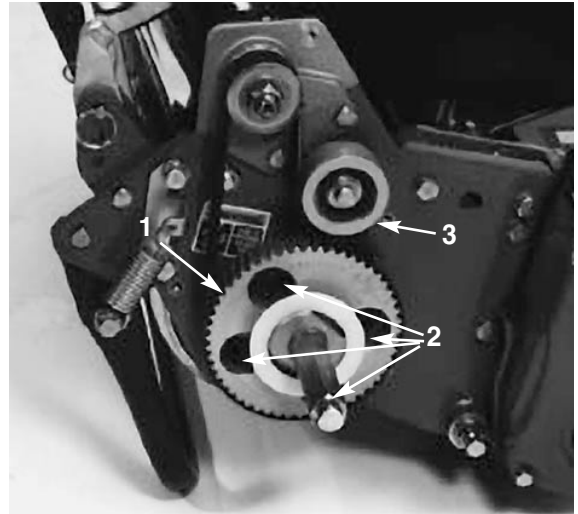

Figure 3.
6. Rotate the drive pulley until the holes align with the (4) roller bearing flange screws (Fig. 3).
7. Loosen the four roller bearing screws and the screw securing the idler pulley. Raise or lower the right side of the roller assembly until the gap is reduced to less than 0.25mm (0.01"). Tighten the roller-bearing screws. Adjust belt tension and tighten idler pulley mounting screw (Fig. 3).